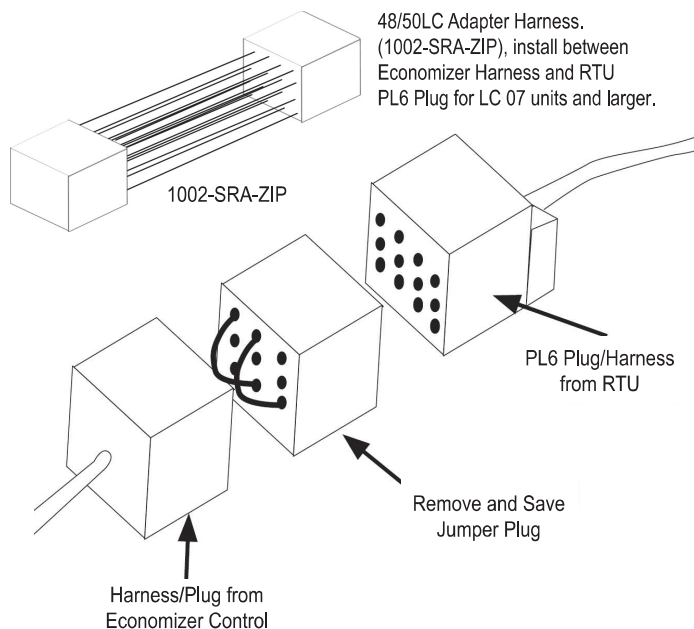

Fig. 7 - PL6 Plug Located in the RA Cavity with the Economizer
5. Remove and save the PL6 12-pin Jumper Plug from the unit wiring harness (located in the upper left corner of the unit). Connect the Economizer plug to the unit wiring harness PL6 Plug - See Fig. 7 and provided Wire Diagram for more details.
Important: For 48/50LC-07 and larger units, a (KIT-SRT15Cx-LC needs to be ordered separately). See Fig. 7.
5. Remove and save the PL6 12-pin Jumper Plug from the unit wiring harness (located in the upper left corner of the unit). Connect the Economizer plug to the unit wiring harness PL6 Plug - See **Fig. 7** and provided Wire Diagram for more details.